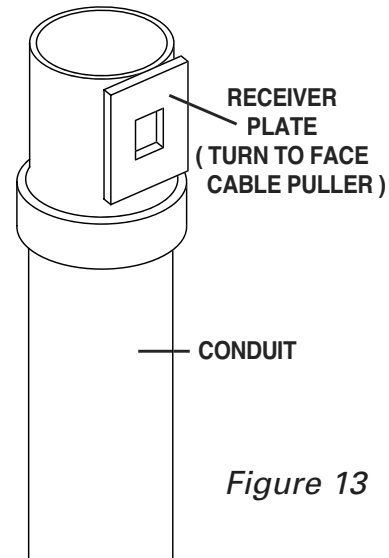

Figure 13
2. Thread coupling onto the conduit until tight. Then, slightly back off coupling until the coupling receiver plate faces the direction where the puller will be positioned. See Figure 13.